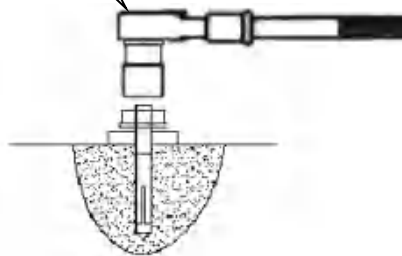

Fig.25
2. Hang the hook of top beam(Right) on the other outer column, and then connect the left and right top beam with bolts. Tighten all the bolts. **(See Fig. 25)**